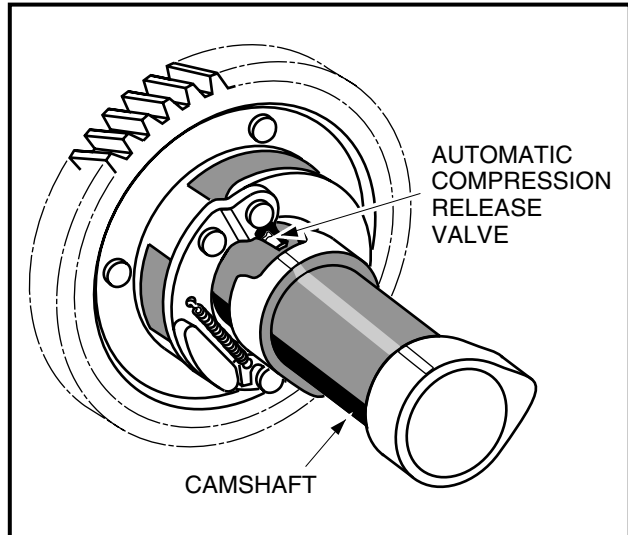

Figure 13-49 ACR Valve Inspection
- **Key-Start Engines:** FE350 and FE400 engines have an automatic compression release valve (ACR) that is activated during the starting procedure (**Figure 13-49, Page 13-26**). As the engine is cranked at a normal 550 to 600 RPM, the ACR opens and reduces compression in the cylinder, allowing the starter to turn the engine with a minimal amount of starter energy, and helping to reduce starter/generator brush wear. A tapping noise will be heard while the ACR is in an open condition. It is normal for the ACR to click, or tap, during normal cranking RPM. When the engine starts and accelerates to 700 RPM, the ACR will close, the tapping noise will stop, and full compression will be reached. After the engine starts, it will idle at 1150 to 1200 RPM.